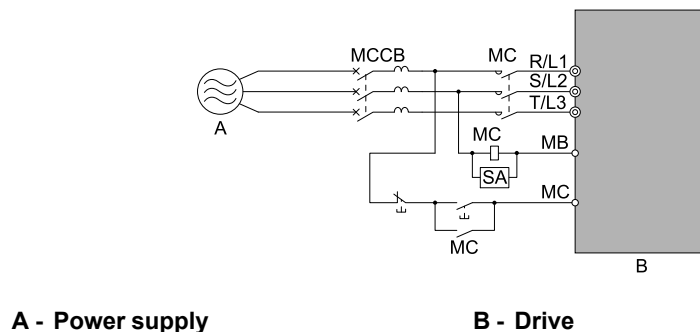

Figure 3.77 Connect an MCCB
- When you connect more than one drive or the drive and other device to an MCCB or ELCB, refer to Figure 3.77, use a magnetic contactor (MC), and set a sequence that de-energizes the drive when it outputs errors.